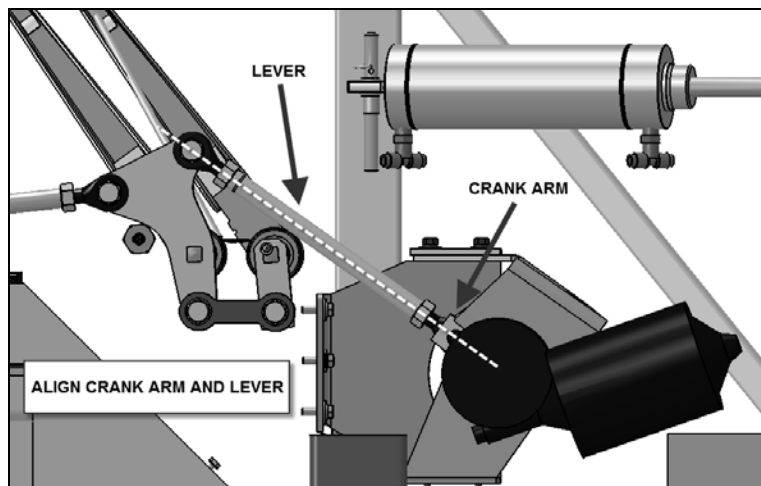
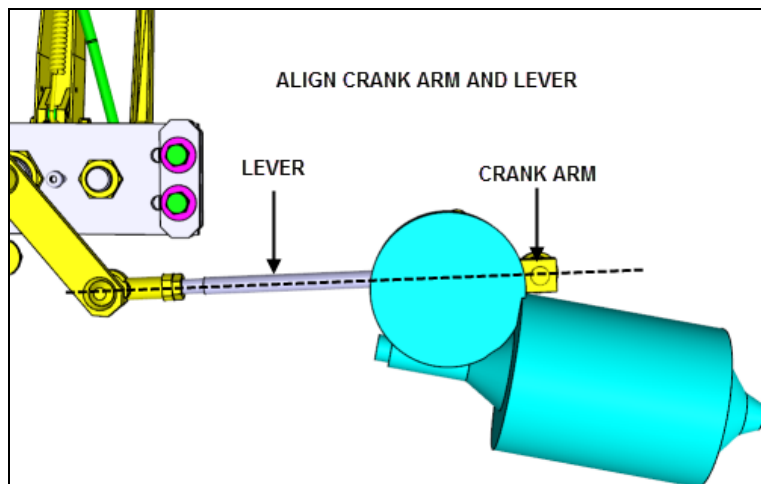

FIGURE 10: AS SEEN FROM THE ACCESS HATCH (X3 & XLII)
FIGURE 12: AS SEEN FROM THE OPENING (H3 SERIES)
14. Reinstall the crank arm on the motor shaft so that the crank arm and lever axis are aligned as shown (refer to figure 10 & 11 for X series, figure 12 & 13 for H3 series).